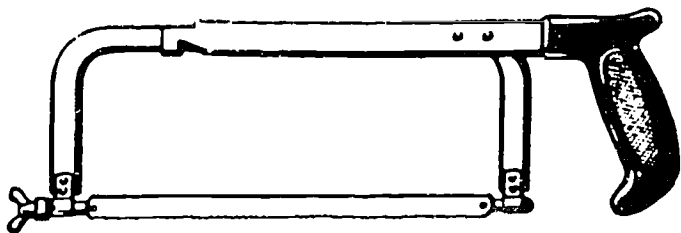

Figure 1-11. Hacksaw.
**Hand Hacksaws.** The hacksaw, illustrated in figure 1-11, consists of a frame, handle, and blade. Hacksaw blades come in lengths 6 to 16 inches, although the 10-inch size is most commonly used. These blades are identified by their length and number of teeth per inch (or pitch). Blades with 14, 18, 24, and 32 teeth per inch are available. Blades are made of high-grade tool steel which may be flexible or all hard. The flexible blades have only hardened teeth, whereas all-hard blades have hardened teeth and blades. Blade selection involves finding the right type for the job at hand, as illustrated in figure 1-12. An all-hard blade is best suited for sawing brass, tool steel, cast iron, and heavy cross sections of material. Flexible blades are recommended for sawing hollow shapes and material